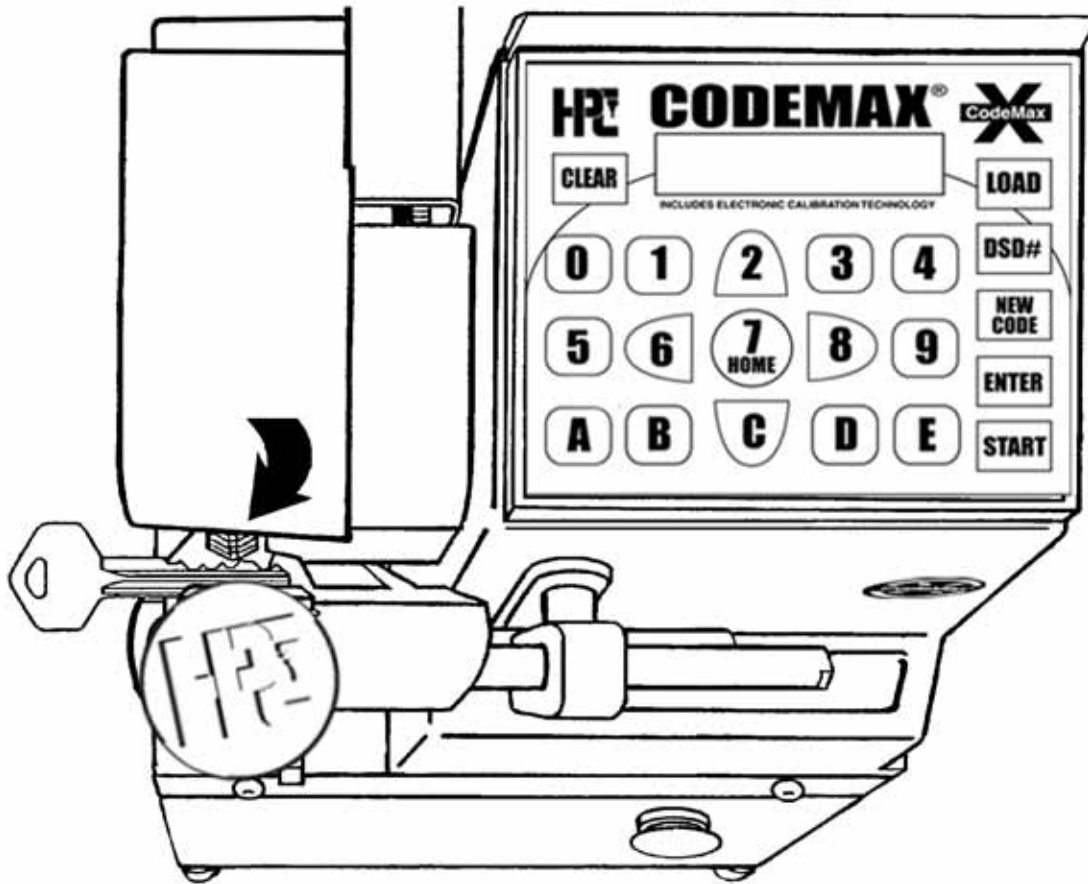

Fig. 1
- 7) Check to see if the cutter is in the center of the cut (see Fig. 1).